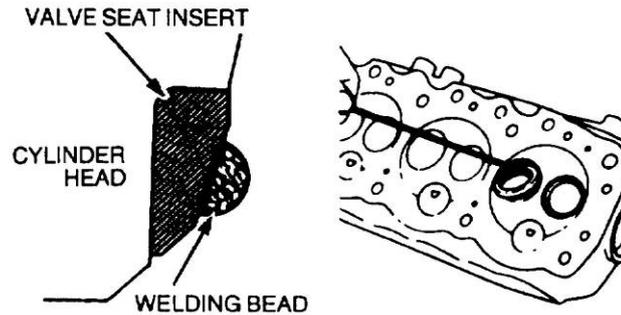

Figure 6 Removing the Valve Seat
- e. If the valve seats are to be removed, run a bead of weld on the angled face of the valve seat (Figure 6). As the weld cools, this will cause the valve seat to shrink, enabling easy removal of the valve seat.